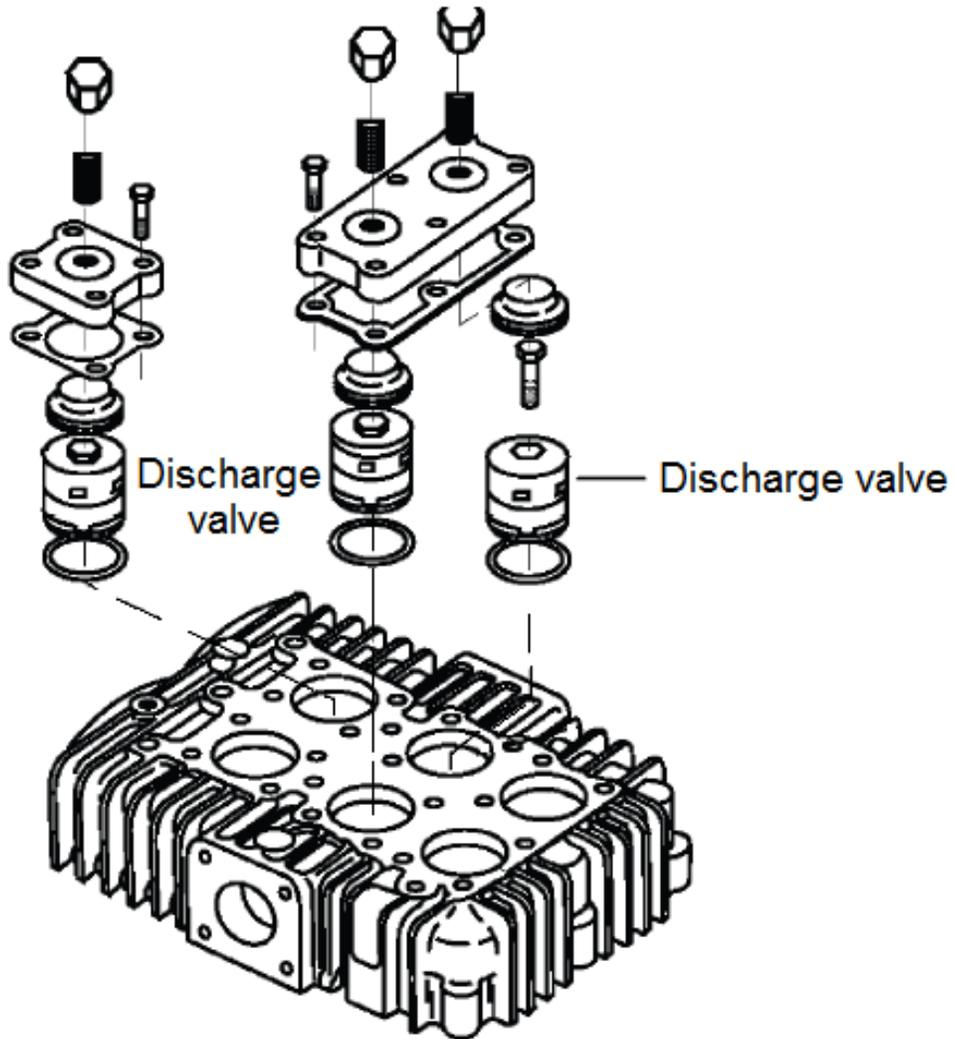

Figure 551-88L-3051\_08
(2) Actions to take.
- (d) Replace discharge valves, (refer to Figure 551-88L-3051\_08).